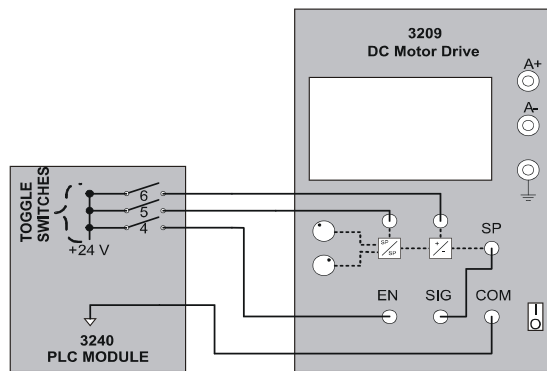

Figure 1-5. DC Motor Drive Test Circuit.
1. Connect the DC Motor Drive to the PLC module, as shown in Figure 1-5. All toggle switches must be turned off (down position).